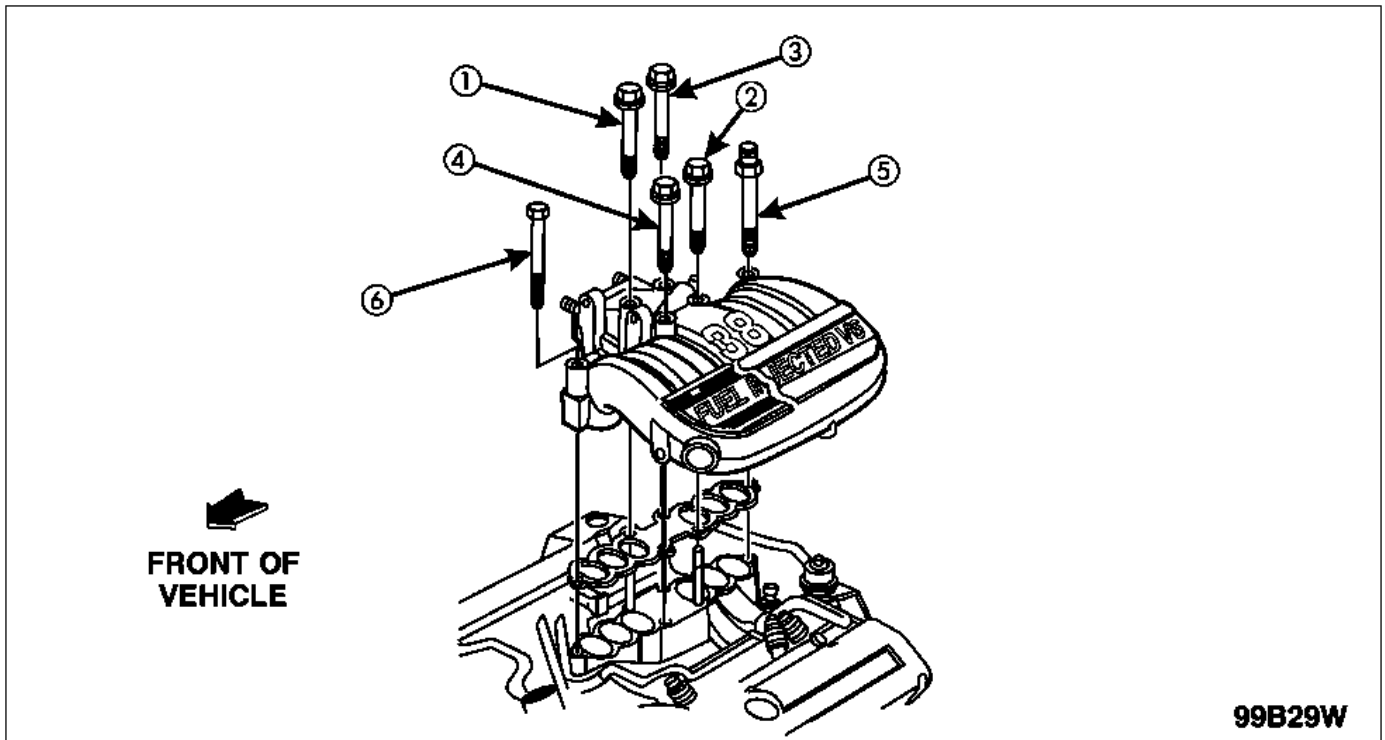

FIGURE 23
53. Install the upper intake manifold. Tighten the retainers in the sequence shown in Figure 23, first to 10 Nm (88 lb-in), then to 20 Nm (15 lb-ft), finally to 32 Nm (23 lb-ft).